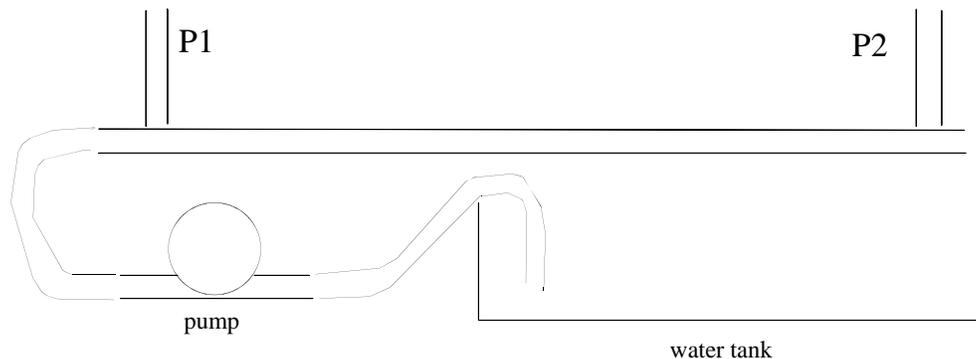

Figure 2: Schematic diagram of the apparatus, including the pump and water reservoir.
1. A sketch of the experimental setup is shown in Fig. 2. A small electric pump takes water from the tank, and pushes it through the glass tube before being returned to the tank. You may assume that the diameter of the glass tube is  $1.2 \pm 0.1$  mm.